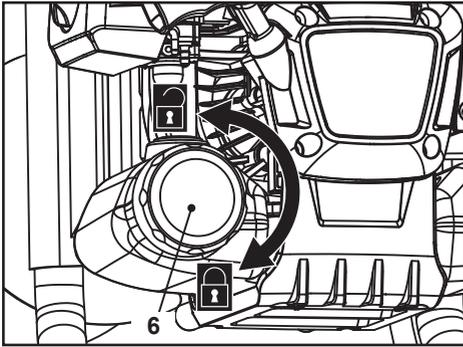

Fig. 3
11. Unscrew and remove the fuel tank cap (6) (Fig. 3).
13. Wipe any spilled fuel with a soft cloth and reattach the fuel tank cap (6). Refit and tighten the fuel tank cap (6) (Fig. 3).